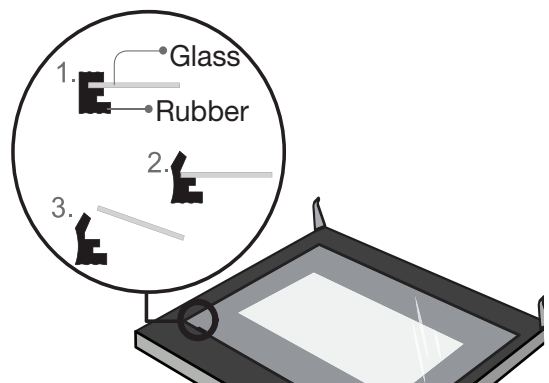

Figure 6
- 6** After pulling out the inner glass, please take out the middle layer glass as shown in Figure 6.